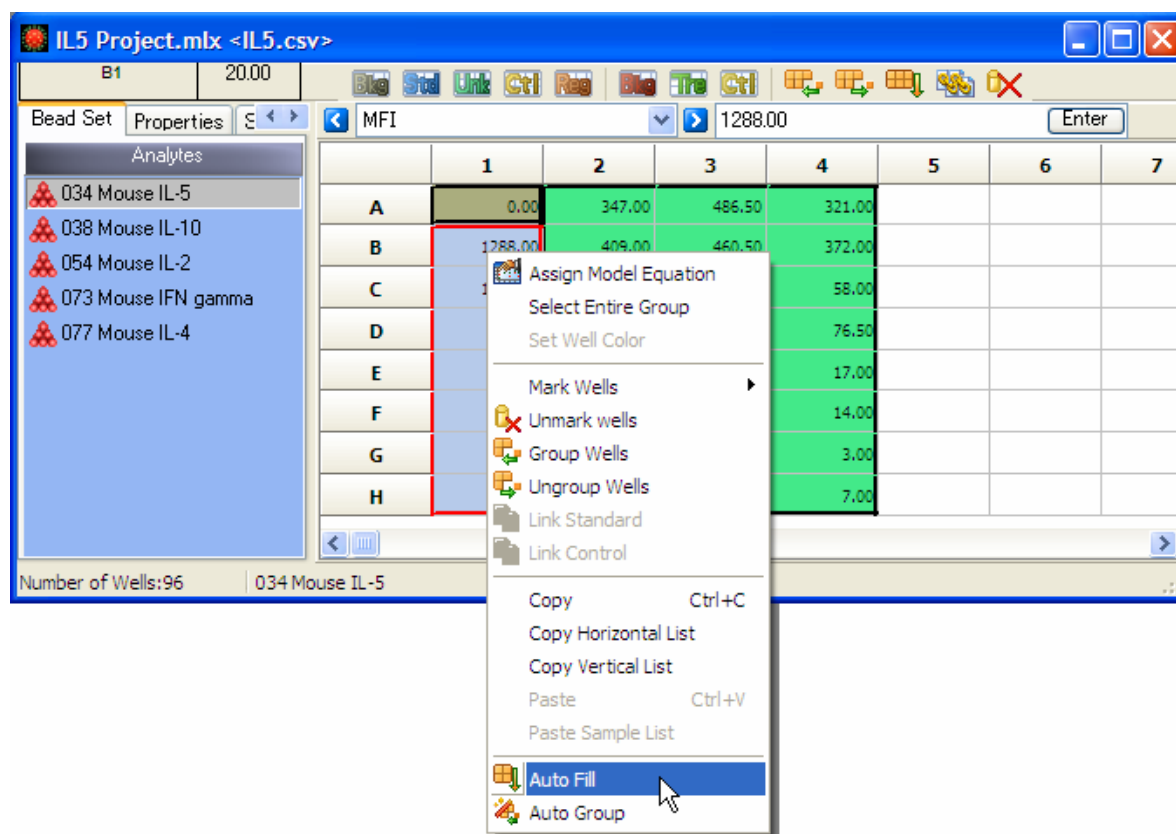

Figure 5.1 Standard wells selected in the well grid
1. Open the results of interest (.csv, .xls, .lxd or .mlx) and select the standard data set (Figure 5.1).